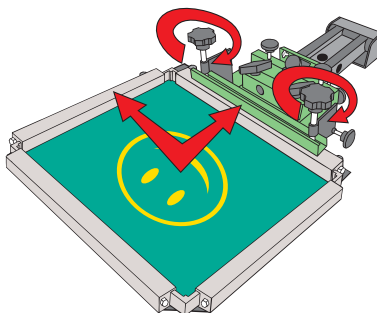

Figure 23: Put your screen against the stops clamp. Repeat this for all colors.
9. Put the screen against the stops and clamp it. Repeat this for each color and you're ready to print. (Figure 23)